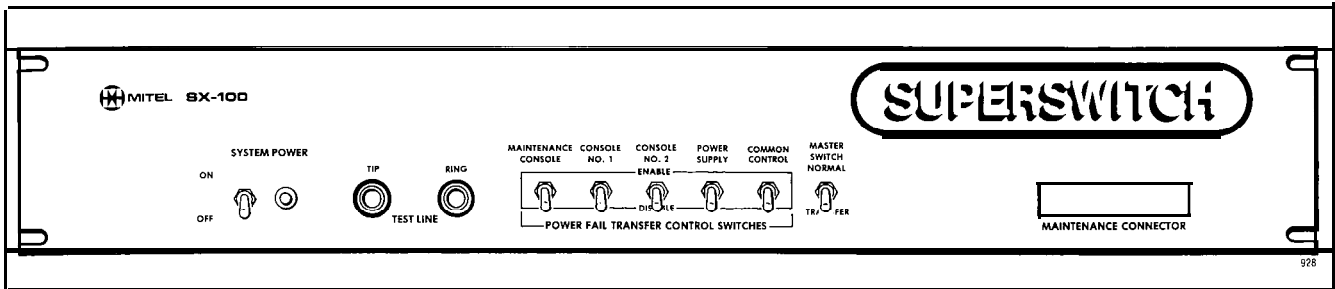

Fig. 2-4 Maintenance Panel
2.08 The maintenance panel (Fig. 2-4) measures 3.50in. (88.9mm) high, 23in. (584.2mm) wide, and 2.0in. (50.8mm) deep with a total weight of 1.5lbs (.682kg). The maintenance connector on the right of the panel permits the service personnel to perform maintenance tasks and enter new, or modify existing customer data using the maintenance console. The test line terminals on the panel allow the use of a standard hand test-set (butt-in) to establish calls through the system using preselected circuits. The power switch controls the application of power to the equipment shelves.